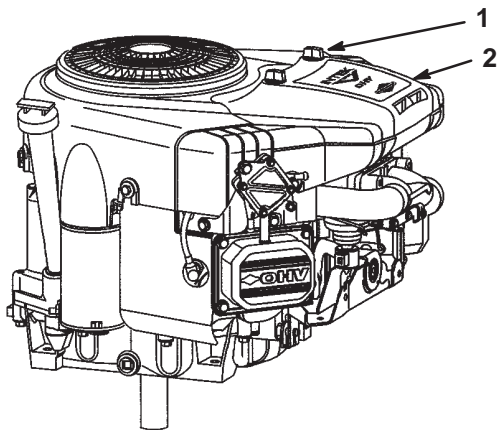

Figure 33
2. Unscrew the knobs and remove the air cleaner cover (Fig. 33).